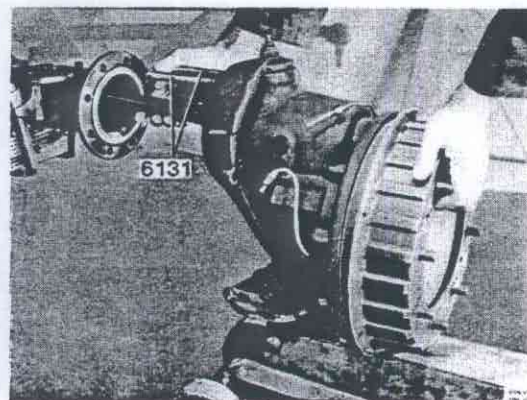

Fig. 46-77. Removing the wheel carrier
6. Remove the upper bolts securing the wheel carrier housing to the front axle casing. Fit the guide pin 6131 in the upper holes, Fig. 46-77. Place a jack under the wheel carrier housing.